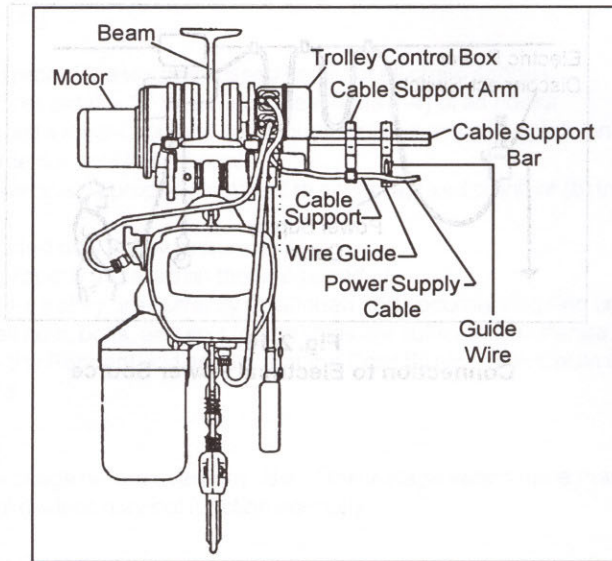

Fig. 2-15
- For a motorized trolley refer to Fig. 2-15 and first affix the guide wire to the Wire Guide. Then attach the Cable Support to the Cable Support Arm.